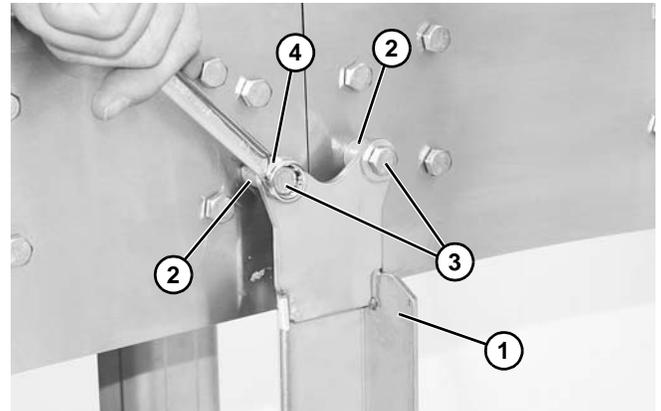

Figure 8
1. Install support stand (**Figure 8, item 1**) to conveyor with spacers (**Figure 8, item 2**) and mounting screws (**Figure 8, item 3**). Stands are typically installed at frame breaks.
2. Tighten mounting screws with wrench (**Figure 8, item 4**).